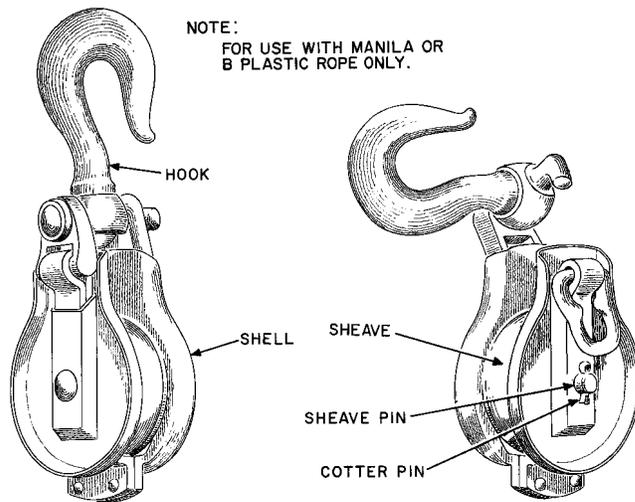

Fig. 2—Snatch Block
5.03 Fig. 2 illustrates the parts that comprise the Snatch Block.